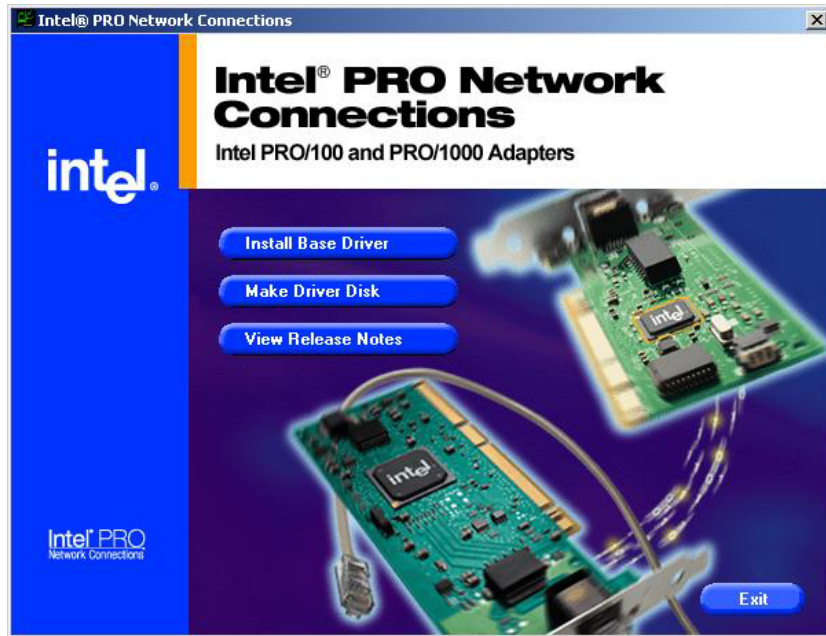

Figure 6-19: LAN Driver Configuration
Step 4: After selecting the directory the driver is installed in, click “**Next.**” The screen in **Figure 6-19** appears.
Step 5: In Figure 6-19, there are three options.